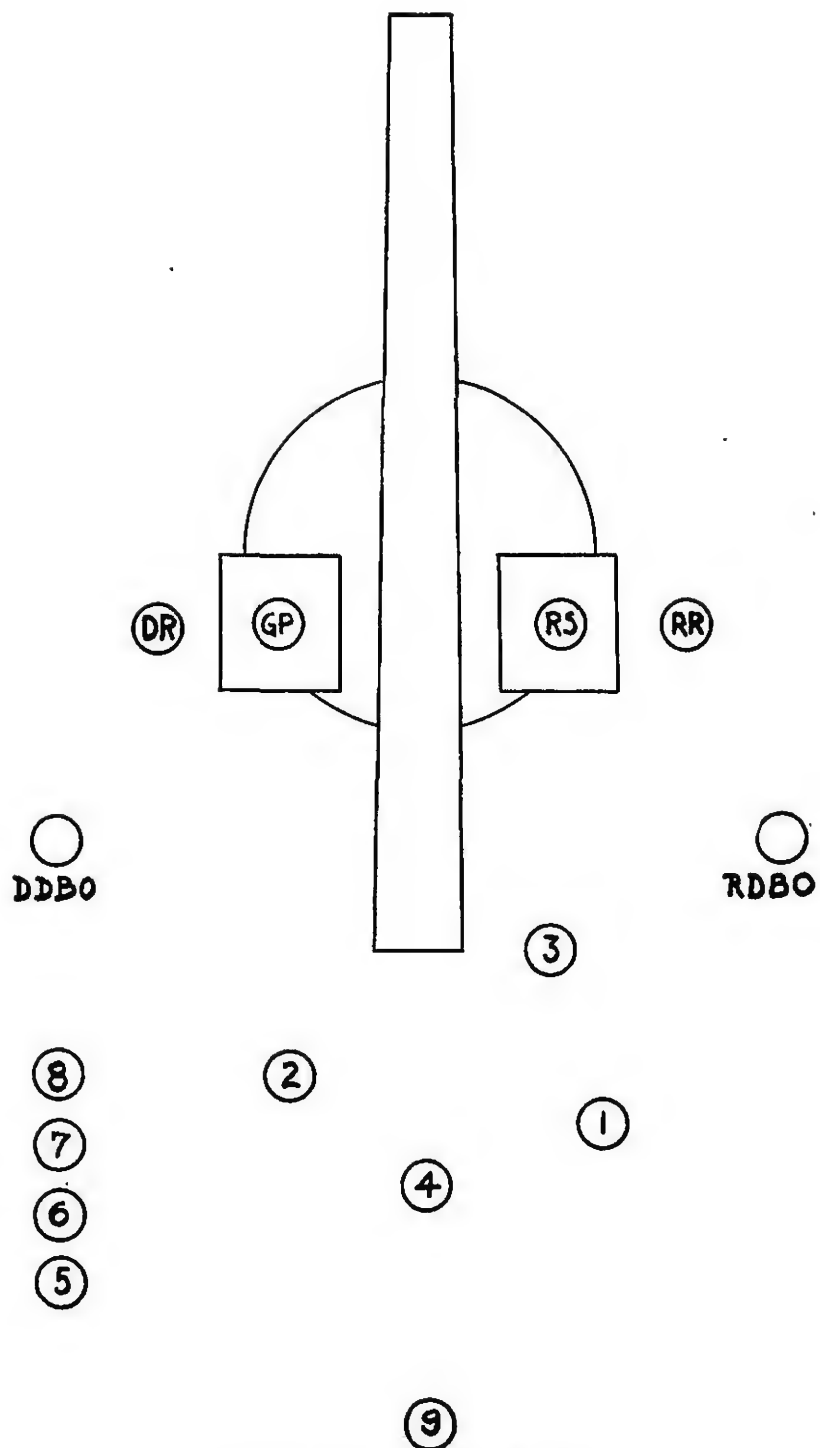

FIGURE 2.—Details, posts.
*b.* He commands: 1. **DETAILS**, 2. **POSTS**, when the section arrives in rear of the emplacement, and supervises the procuring of equipment. After all details have reached their posts (fig. 2), he commands: **EXAMINE GUN**. He then makes an inspection of the gun, carriage, and other matériel, paying special attention to the recoil cylinder, firing mechanism, safety devices, and the oiling of the various bearings. He receives the reports of the chief of ammunition and of the various details of the gun squad, and reports to the officer in charge of the emplacement, "Sir, No. ----- in order," or reports defects which he is unable to remedy without delay.